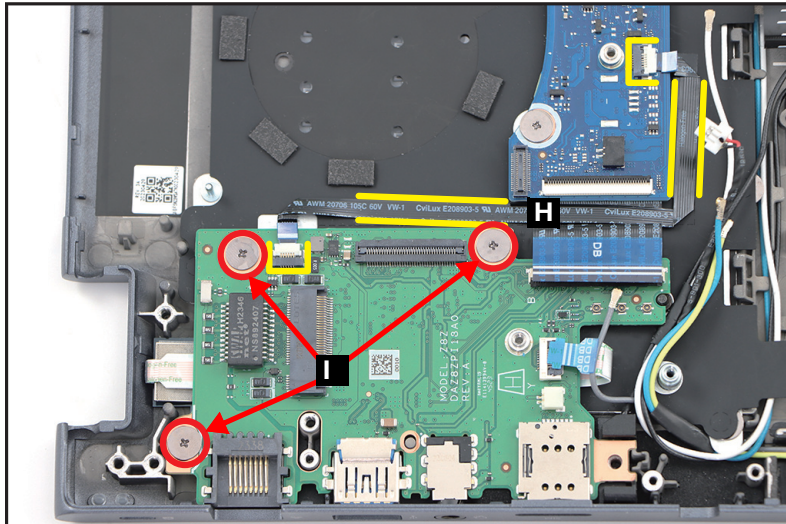

Figure 1-42. LTE Board Removal
8. Disconnect the P-sensor FFC (H) from the LTE board and mainboard connectors. Carefully detach the middle portions (highlighted with the yellow lines) of the FFC from its underneath adhesive (Figure 1-42). Remove the P-sensor FFC.
9. Remove three (3) screws (I) securing the LTE board in place (Figure 1-42).